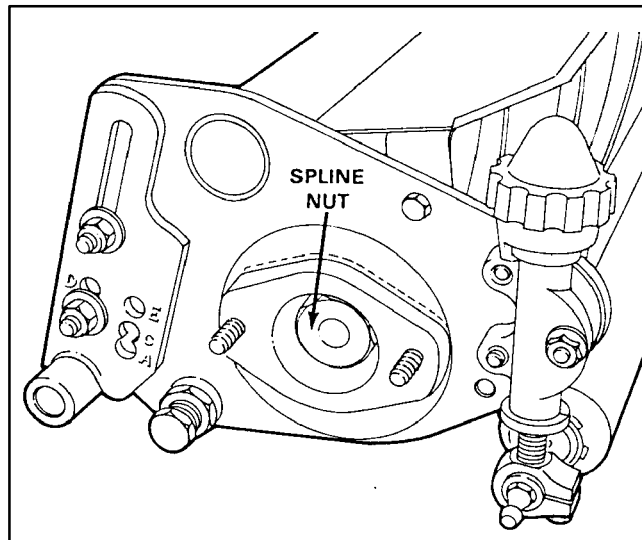

Figure 1
2. Tighten spline nut on right end of each cutting unit to 65-70 ft. lb. (Fig. 1).